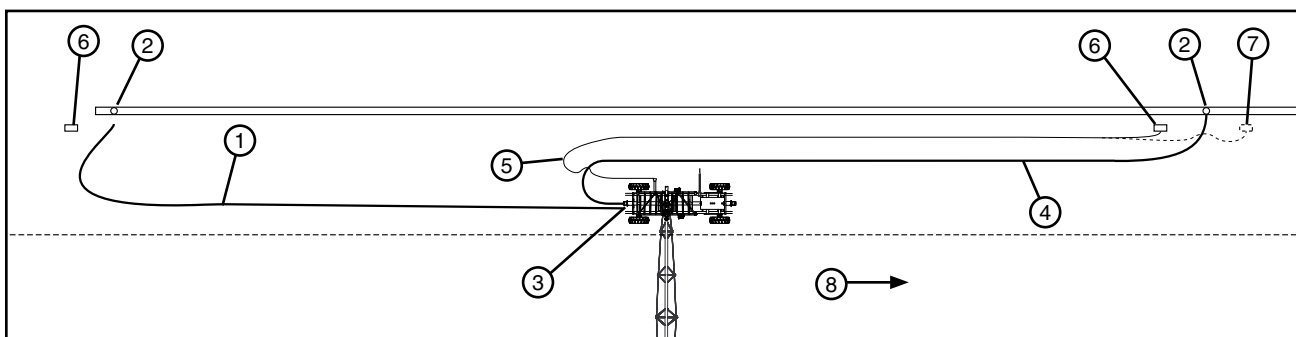

Figure 56-1 1. First Hose 5. Electric Cord
- (c) Position the electric cord far enough away from the hose, so that the hose will not drag over it. To prevent interference between the electric cord, cart tires and hose, position the electric cord over the top of hose or when applicable, bury the electric cord in the area where interference will occur. See Figure 56-1.
18. Select the original direction of travel, start and run the system so that the hose drops out of the linear cart. Stop the machine. See Figure 56-1.